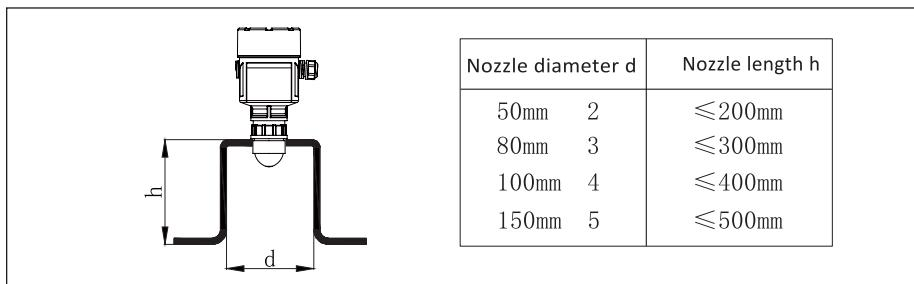

figure 8
- If the length of the vessel connecting pipe is long, please refer to Figure 8. The longest installed connecting pipe shall be as small as possible as the size shown in Figure 8, and the end must be ground smooth without burrs and other protrusions. If necessary, use the "false echo storage" function to eliminate the reflected signal at the end of the container nozzle, which can also achieve better measurement results.